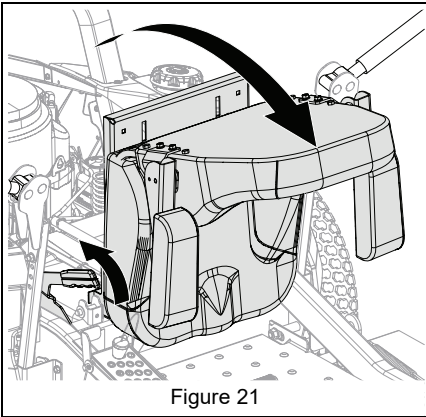

Figure 21
6. *Models 991159, 991161, 991163:* Rotate seat forward. See Figure 21.